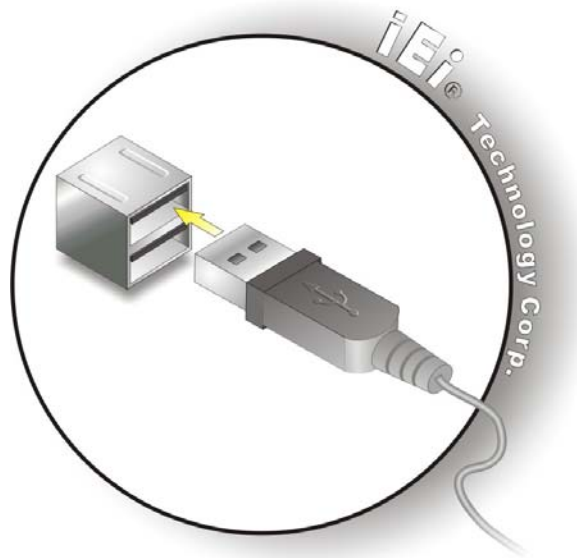

Figure 4-24: USB Device Connection
Step 2: Align the connectors. Align the USB device connector with one of the connectors on the I/O interface panel. See **Figure 4-24**.